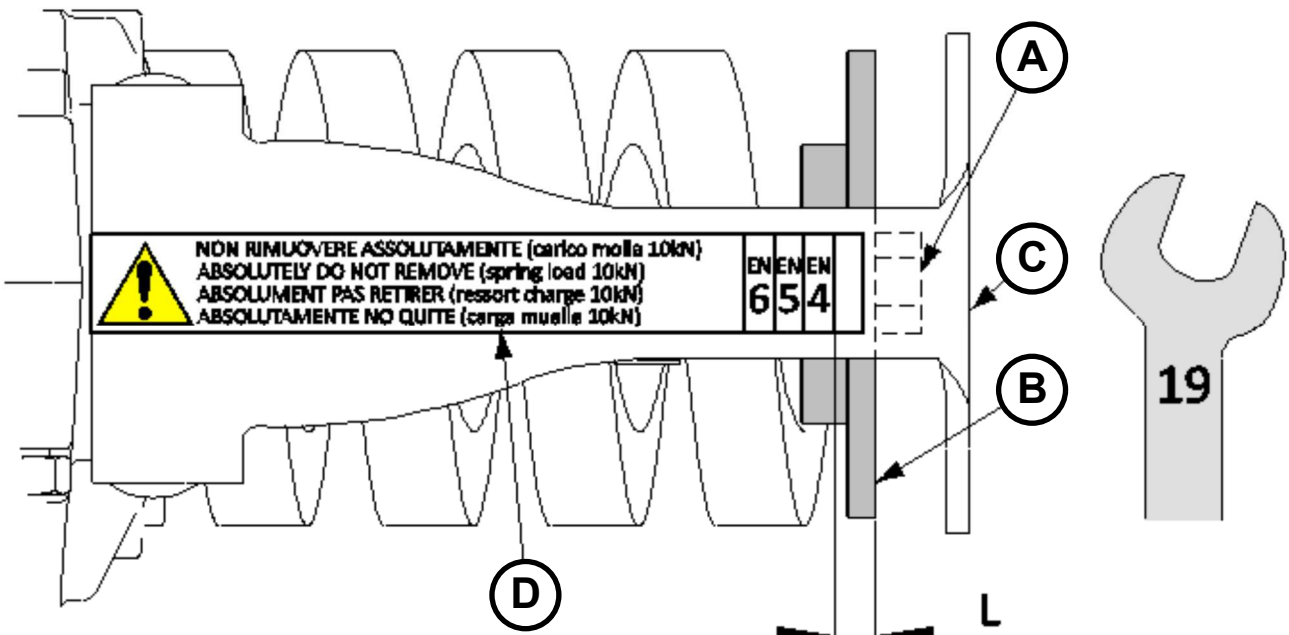

Fig. 8.
- Tighten the nut (Fig. 8 part A) so that the spring is previously loaded until the plate ends (Fig. 8 part B) coincide with the line that indicates the EN4 range start point (level L=0).
- Unscrew the spring tension screw slightly (Fig. 8 part A).
- Screw the nut (Fig. 8 part A) so that the spring loads previously up to both ends of the plate (Fig. 8 part B) coincide with the line indicating the beginning of the EN4 field (dimension L=0)
- Loosen the screw slightly, removing tension from the spring (Fig. 8 part A)
- Turn the nut (Fig. 8 part A) to preload the spring, until the plate ends (Fig. 8 part. B) coincide with the line indicating the start point of the EN4 range (level L=0).
The adjustment range can be seen in the graph curve in Fig. 18, depending on the weight and width of the swing leaf, and regardless of the type of arm installed. When adjusting the spring, take into account loads due to wind, excessive pressure and other environmental conditions that tend to open a door on their own. Adjust the strength of the spring tightening the screw (Fig. 8, Part A) such that it tenses the spring until the plate ends (Fig. 8 part B) are in the category corresponding to the installation type (identified EN class).
**WARNING:** Check the spring protection bracket (Fig. 8, part C) and ensure that the anti-tampering seal sticker has not been removed (Fig. 8, part D).